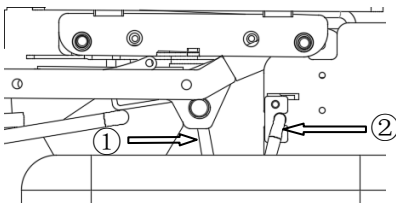

Figure 3
- Lift up the pull rod ① in Figure 3 to adjust the height of the head plate.
- Lift up the pull rod ② in Figure 3 to adjust the horizontal angle of the head plate.